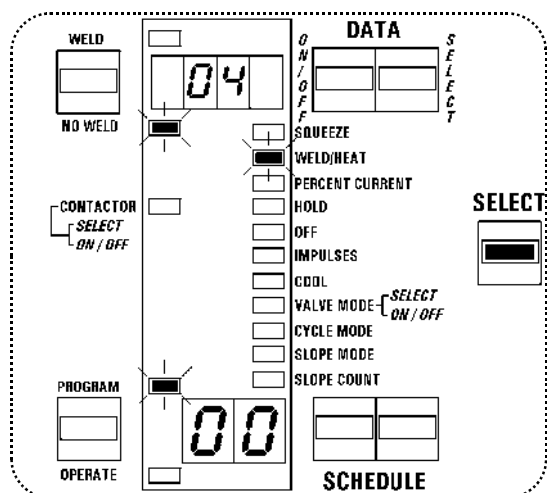

Figure 7.2 Select WELD/HEAT
3. Click the SELECT push button until WELD/ HEAT parameter is reached, Fig. 7.2.